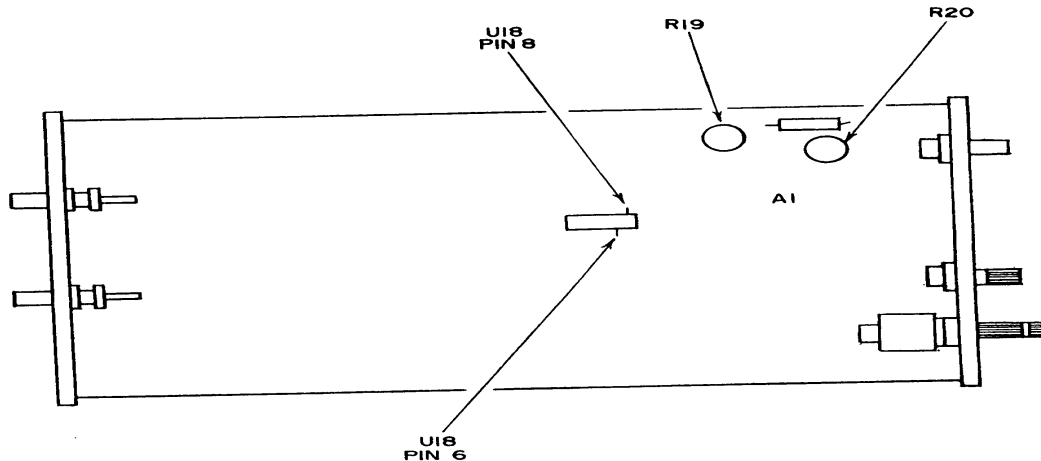

Figure 2. Test instrument - (Hewlett-Packard, Model 5304B) - bottom view.
(1) Connect oscilloscope CH 1 input to U18 pin 6 (fig. 2).
(2) Adjust function/arbitrary generator frequency to 10 MHz and amplitude to 50 mV.
(3) Adjust A1R20 (fig. 2) for a symmetrical waveform with minimum or no change in duty cycle when **SLOPE** switch is changed from + to - and minimum or no change when **AC/DC** switch is set to **AC** or **DC** (R).
(4) Connect oscilloscope input to U18 pin 8 (fig. 2).
(5) Repeat (2) above and adjust A1R19 (fig. 2) for a symmetrical waveform with minimum or no change in duty cycle when **SLOPE** switch is changed from + to - and minimum or no change when **AC/DC** switch is set to **AC** or **DC** (R).